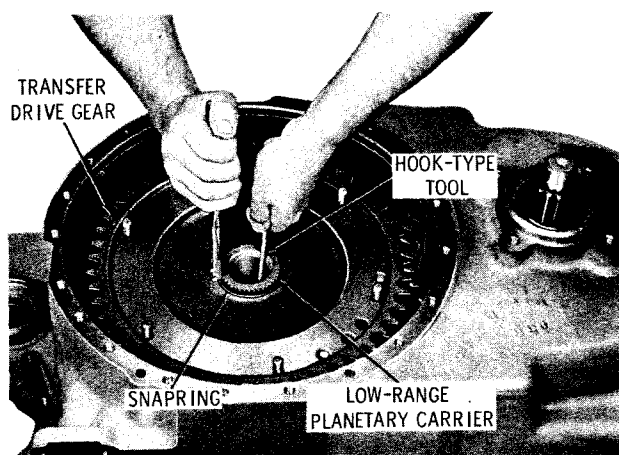

Fig. 7-21. Installing transfer drive gear snapping
(2) Using a suitable hook-type tool, raise the low-range planetary carrier sufficiently to expose the snapping groove in the splined hub, and install the snapping (fig. 7-21).